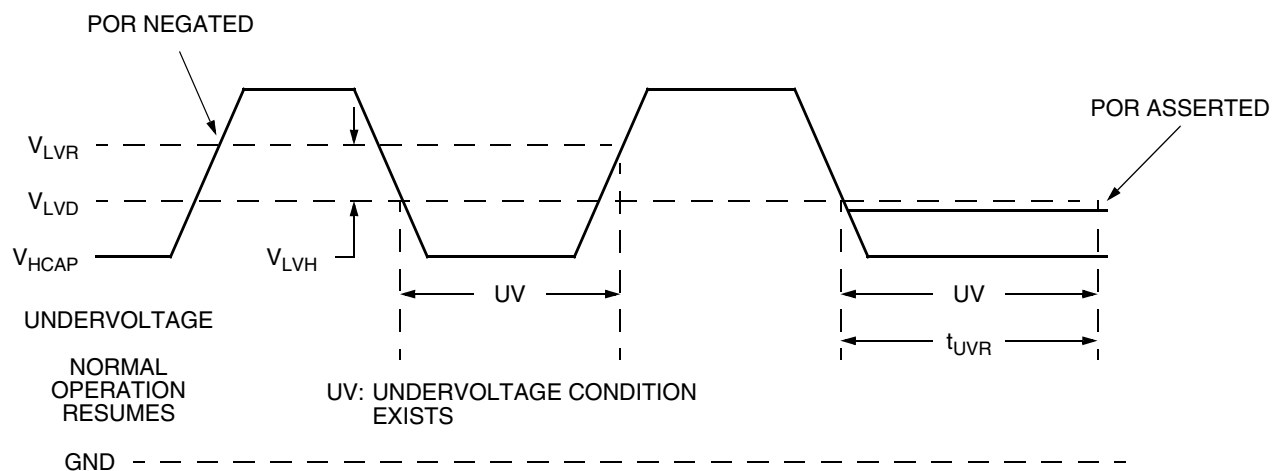

Figure 5-1. V_{HCAP} Undervoltage Detection
| 120 | V_{HCAP} Undervoltage Reset Period (see Figure 5-1) $V_{HCAP} < V_{RA}$ to POR assertion | t_{UVR} | 0.95 | 1.0 | 1.05 | ms | (8) |